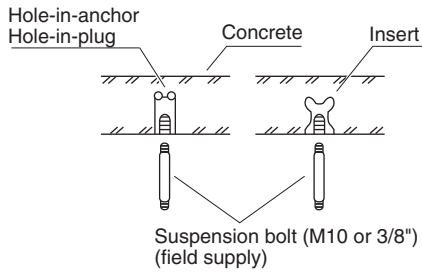

Fig. 3-73
- Insert suspension bolts as shown in Fig. 3-73
- (2) Screw in the suspension bolts allowing them to protrude from the ceiling as shown in Fig. 3-73. (Cut the ceiling material, if necessary.)